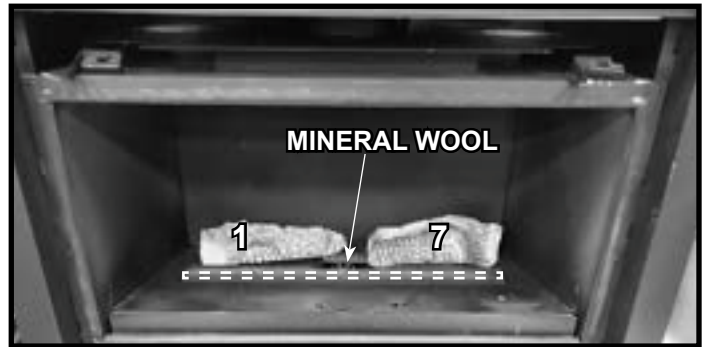

Figure 18. Place Log #1
9. Install Log #1 by locating the back left tab behind the burner. Place the log so that the left end is contacting the tab and pulled forward until it contacts the sheet metal flange behind the burner. The right end of the log rests on top of the pilot shield. See Figure 18.
10. Place mineral wool on the burner. Mineral wool can be placed the entire length of the burner, but it must only be placed between the front row of ports and the space in front of the burner. The mineral wool should not cover any ports or fall so that it covers the gap on either side of the burner. Refer to Figure 18.